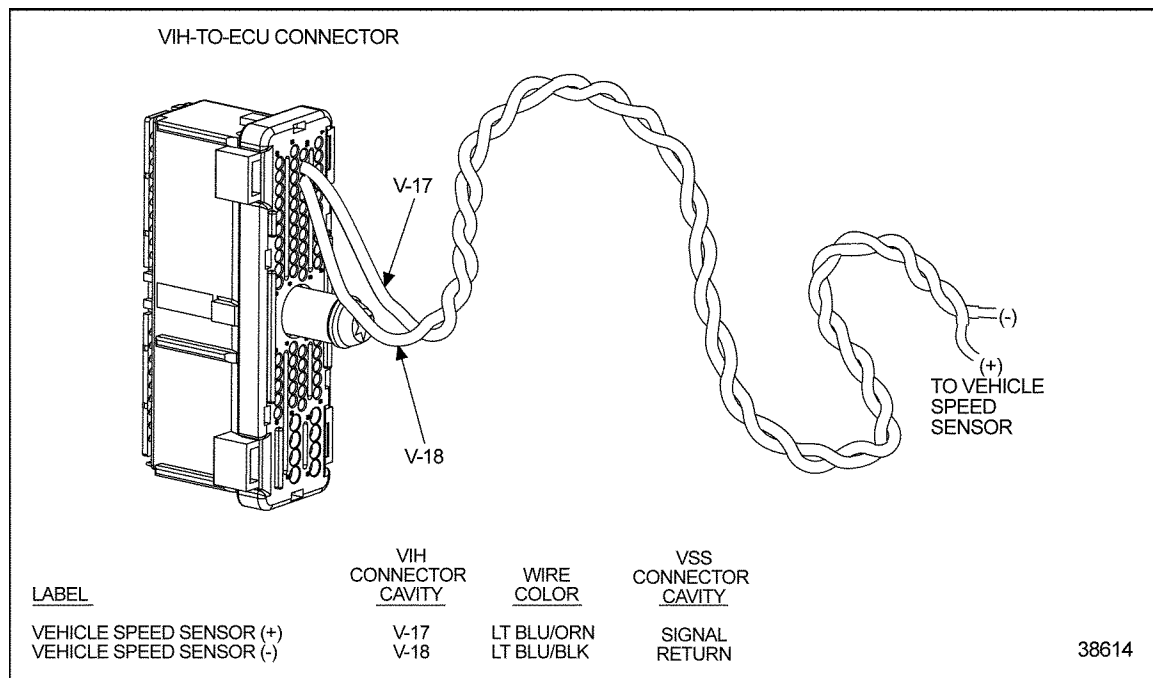

Figure 53-1 VIH-to-ECM/ECU Connector
4. Measure resistance of VSS circuit across VIH connector pins, V-17 and V-18. See Figure 53-1.
2. Measure resistance between VIH connector terminals V-17 and V-18. See Figure 53-1.
3. Measure resistance of VSS across Vehicle Speed Sensor connector pins. See Figure 53-1.
3. Measure resistance between sockets V-17 and V-18 on the ECM/ECU VIH connector. See Figure 53-1.
4. Measure resistance of VSS across Vehicle Speed Sensor connector pins. See Figure 53-1.
3. Measure resistance between sockets V-17 and V-18 and a good ground. See Figure 53-1.